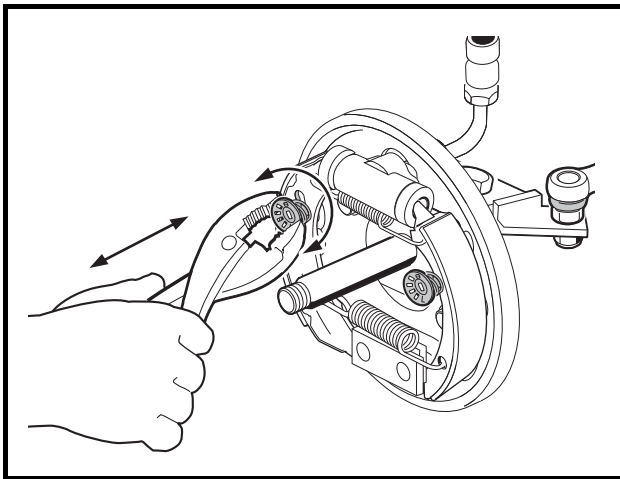

Figure 6-4 Rotate Front Spring Cups
2. Use pliers or a brake tool to rotate the cup washer and compression spring assembly 90° and remove the cup and spring from each brake shoe (**Figure 6-4, Page 6-9**). See following **NOTE**.
5. Compress the remaining spring and cup washer (12) onto the pin of the adjuster (3) (**Figure 6-1, Page 6-2**) and rotate 90° to secure the brake shoe (**Figure 6-4, Page 6-9**).